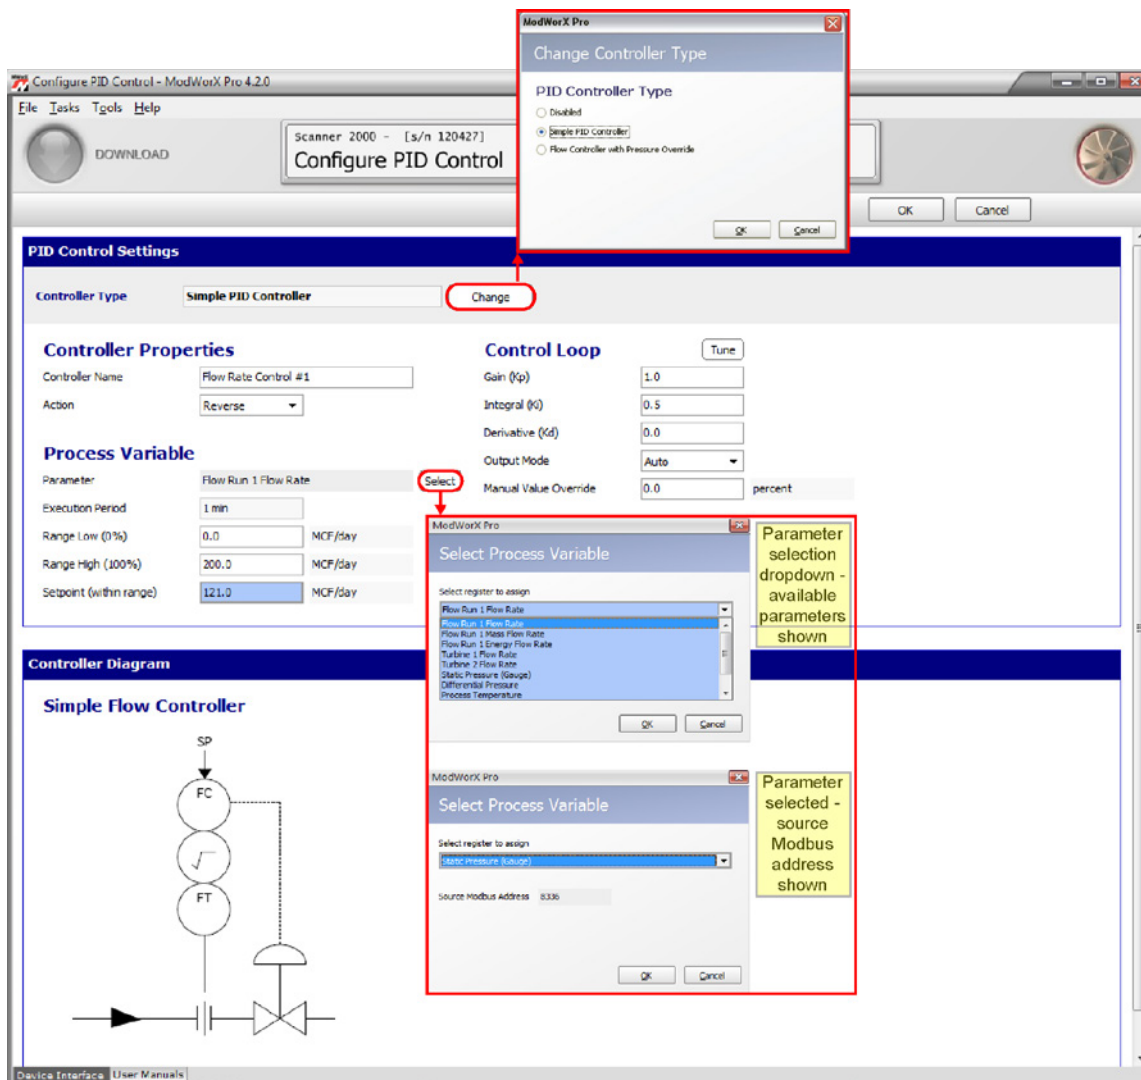

Figure B.5
1. From the Scanner 2000 Configuration Menu, click the **PID Control** button to access the Configure PID Control screen (Figure B.5).
5. Enter the Range Low and Range High values for the process variable being controlled in the fields provided. In Figure B.5, the range is 0 to 200 Lit/hour.
**Note** The Proportional Constant ( $K_p$ ) is referred to as “Gain” in the ModWorX Pro software interface. Gain is fundamental to the PID controller, because it is used to determine the controller output value. For example, assume a gain value of 1.0 (actual gain values will be much smaller due to normalization of the process variable operating range), a setpoint of 50%, and a process variable reading of 60%. To determine the output value, the controller multiplies the error (the process variable reading minus the setpoint, so 10 in this case) by the gain factor (1), the calculated output value would be  $10 \times 1$ , or 10 (percent of output change). The direction of the change (increase or decrease) in the output is determined by the action set in Step 3.
1. From the Scanner 2000 Configuration Menu, click the **PID Control** button to access the Configure PID Control screen (Figure B.5, page B-4).